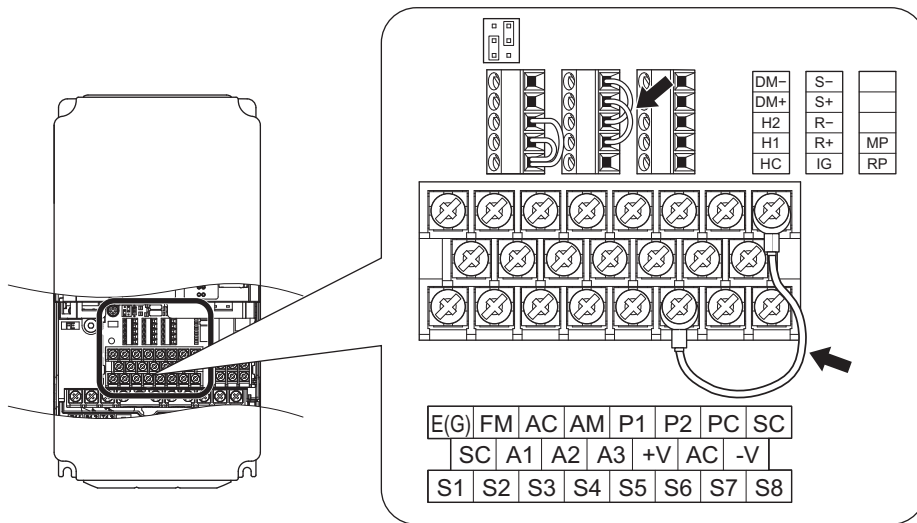
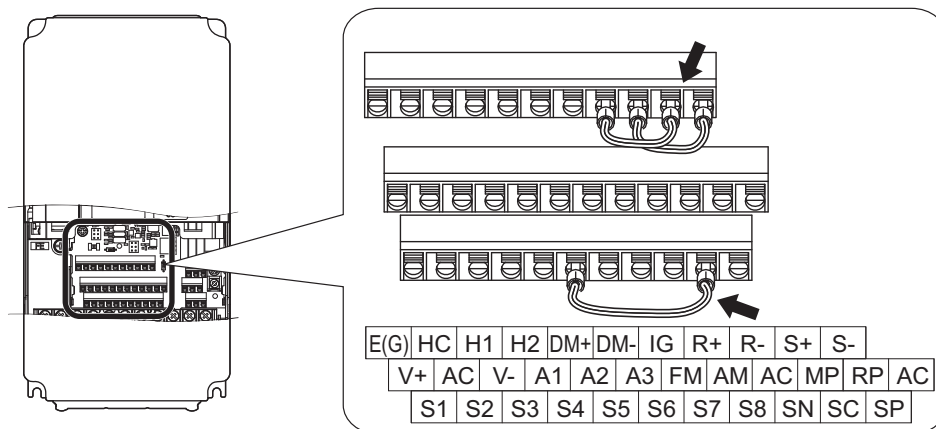

Figure C.9 Terminal Connections for Communication Self-Diagnostics (CIMR-UA□/UD□/UT□)
Figure C.10 Terminal Connections for Communication Self-Diagnostics (CIMR-UB□)
4. With the power off, wire the drive as shown in Figure C.9 and Figure C.10, connecting terminals R+ and S+, R- and S-, and S6 and SC.